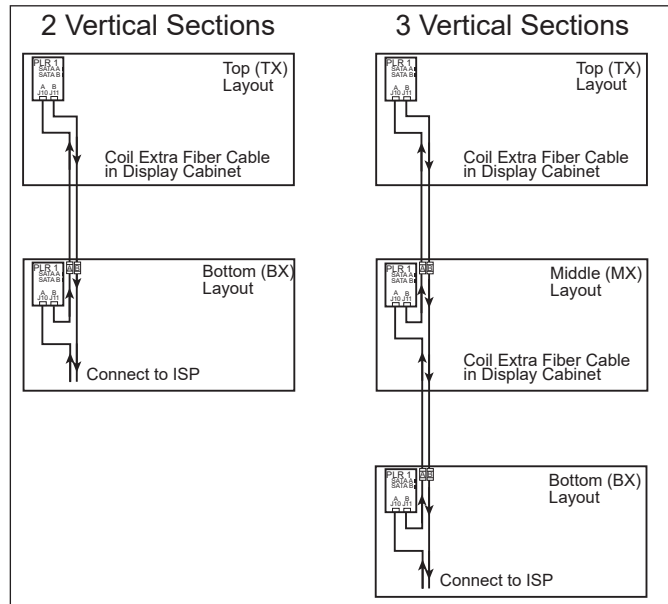

Figure 19: Signal Splice Connections
20. Connect the signal splice cables from the display top section. Refer to **Figure 19** and **DWG-4131265**.